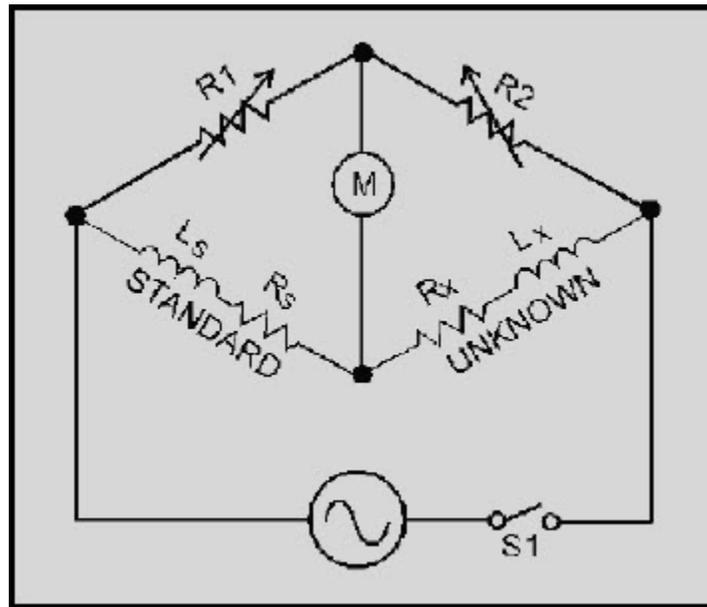

Figure 1-8 Inductance bridge
**INDUCTANCE BRIDGE** - The value of the unknown inductance  $L_x$  may be determined by means of the simple bridge circuit shown in figure 1-8. Ratio arms  $R_1$  and  $R_2$  are accurately calibrated resistors.  $L_s$  is a standard inductor with a known inductance;  $R_s$  is the known resistance, and  $R_x$  represents the resistance of the unknown inductor.
In figure 1-8, for example, the values of  $R_1$ ,  $R_2$ , and  $R_s$  are 20, 40, and 60 ohms, respectively. The value of  $L_s$  is 10 millihenries. We can find the values of  $R_x$  and  $L_x$  by using their respective formulas as follows: